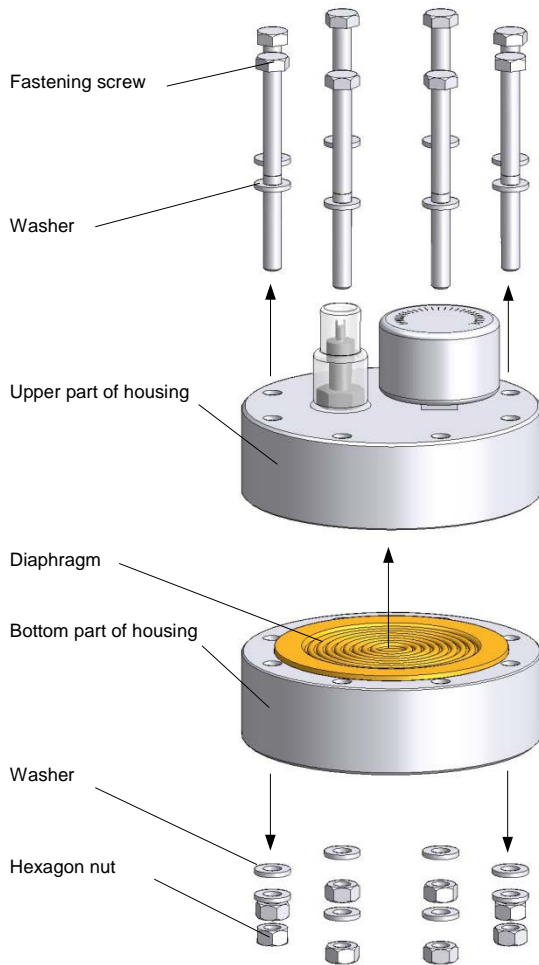

Fig. 17 Diaphragm replacement
- Loosen fastening screws crosswise and remove upper part of the housing (see Fig. 17).